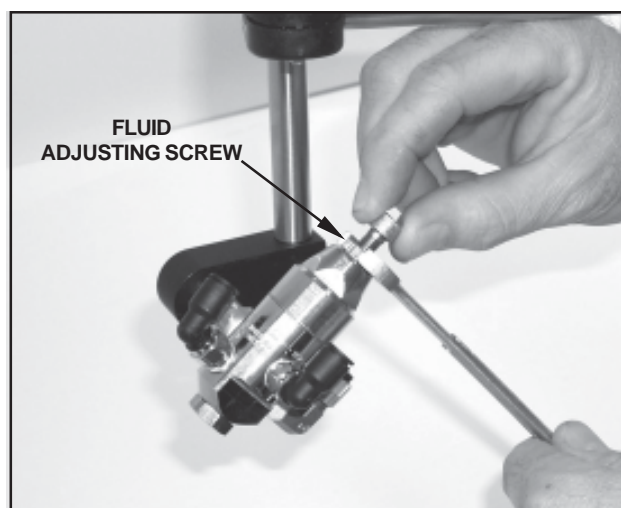

FIGURE 17
- 2- Turn the fluid adjusting screw in a clockwise direction (Figure 17) until it stops. At this point, the screw is touching the rear of the valve control piston and will prevent the valve from opening.